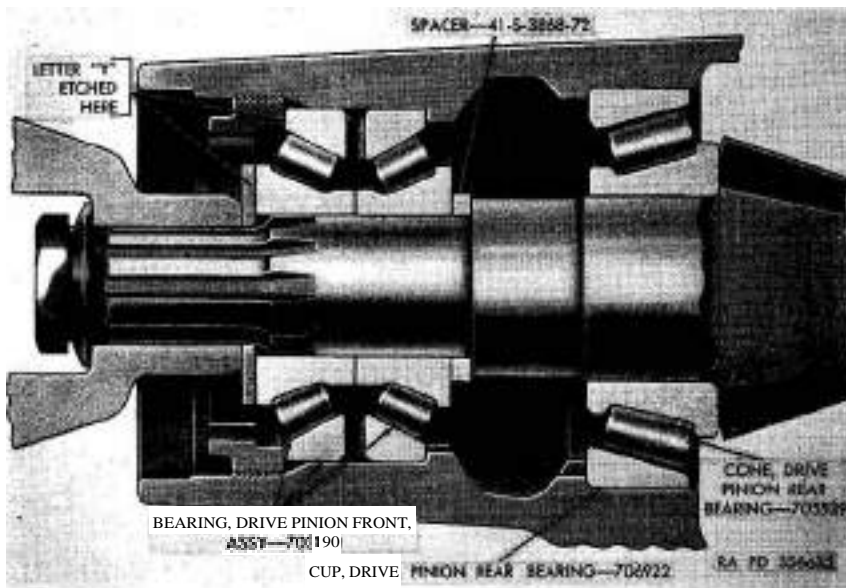

Figure 83. Location of spacer for checking drive pinion front bearing assembly.
Note. If a letter "Y" is etched on the narrow edge of the front bearing cup (fig. 83), the cup must be installed with the letter "Y" toward the front of the carrier (oil seal end).
Note. A letter "Y" is etched on the face of the outer cone (fig. 83) and this cone must be placed in the oil seal end of the drive pinion carrier.
Note. Lack of preload in a front bearing assembly that has been in service is not an indication that a replacement of the bearing is necessary. If a front bearing assembly (fig. 83) that has been in service is in good condition, no perceptible end play is evident, and the bearing cup and two cones are clean and dry (no lubricant) when assembled in the carrier housing, the bearing is satisfactory.
- (2) Place spacer 41-S-3868-72 (fig. 83) and drive pinion front bearing inner cone on drive pinion.
Note. Spacer 41-S-3868-72 (fig. 83) is thicker than the service drive pinion bearing spacers and prevents drive pinion rear bearing cone rollers from contacting drive pinion rear bearing cup when the front bearing assembly is checked.
- (3) Install drive pinion and bearings in drive pinion carrier. Place drive pinion front bearing washer, companion flange, and companion flange nut on drive pinion.
- (4) Hold companion flange and tighten companion flange nut with a torque indicating wrench to 300 pound-feet torque. Rotate drive pinion several revolutions until bearings roll
- (5) Remove drive pinion from carrier. Remove front bearing inner cone and spacer 41-S-3868-72 (*fig. 83*) from drive pinion.